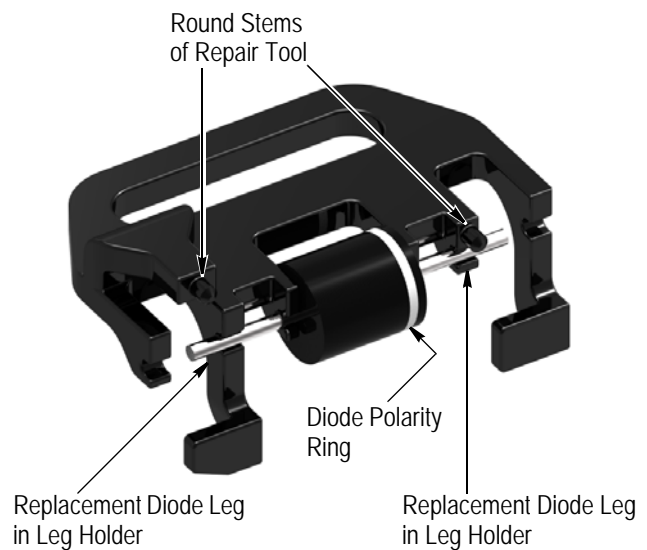
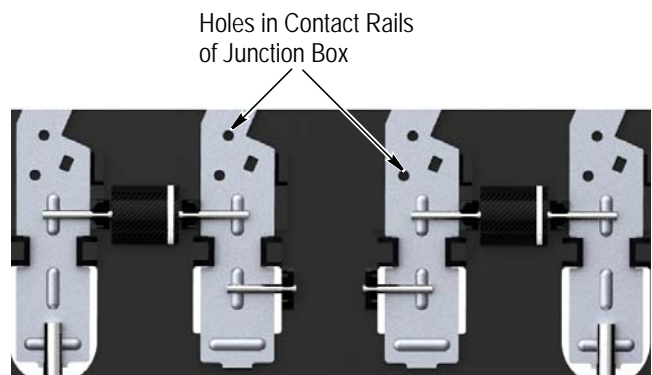

Figure 5
Figure 6
1. Position the legs of the replacement diode against the leg holders of the repair tool. Make sure to orient the replacement diode so that the polarity ring will be in the proper position when it is installed. Then "snap" the replacement diode into the repair tool as shown in Figure 5.
2. Mount the repair tool onto the contact rails that correspond to the diode being replaced by aligning the round stems of the repair tool (shown in Figure 5) with the holes in the contact rails (shown in Figure 6), then push the repair tool so that the round stems enter the holes. Figure 7 shows the repair tool properly mounted onto the contact rails of the junction box.